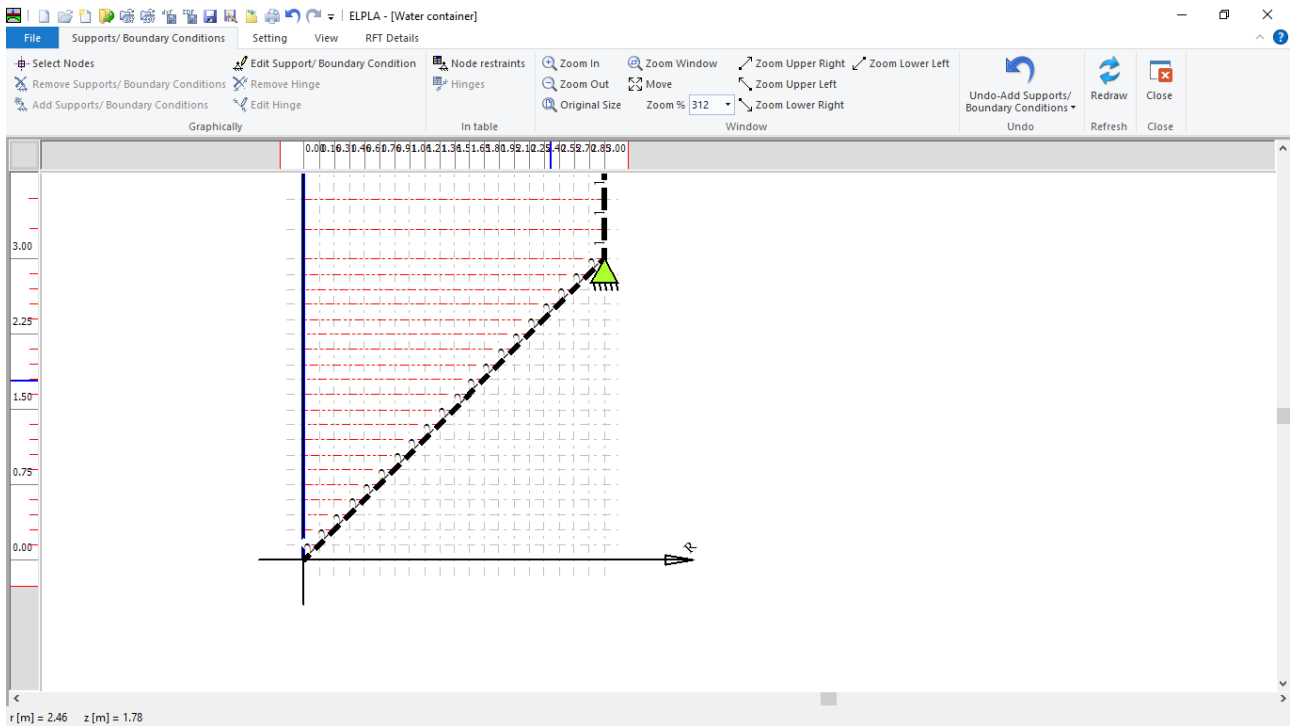

Figure 10.20 "Supports/ Boundary Conditions" window after defining the support
- Choose "Save " command from "File" menu in Figure 10.20 to save the data of supports
- Choose "Close" command from "File" menu in Figure 10.20 to close the "Supports/ Boundary conditions" window and return to the main window